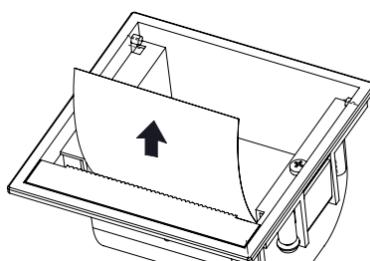

Figure 5-2
- 3) Take out the remaining paper (Figure 5-2).